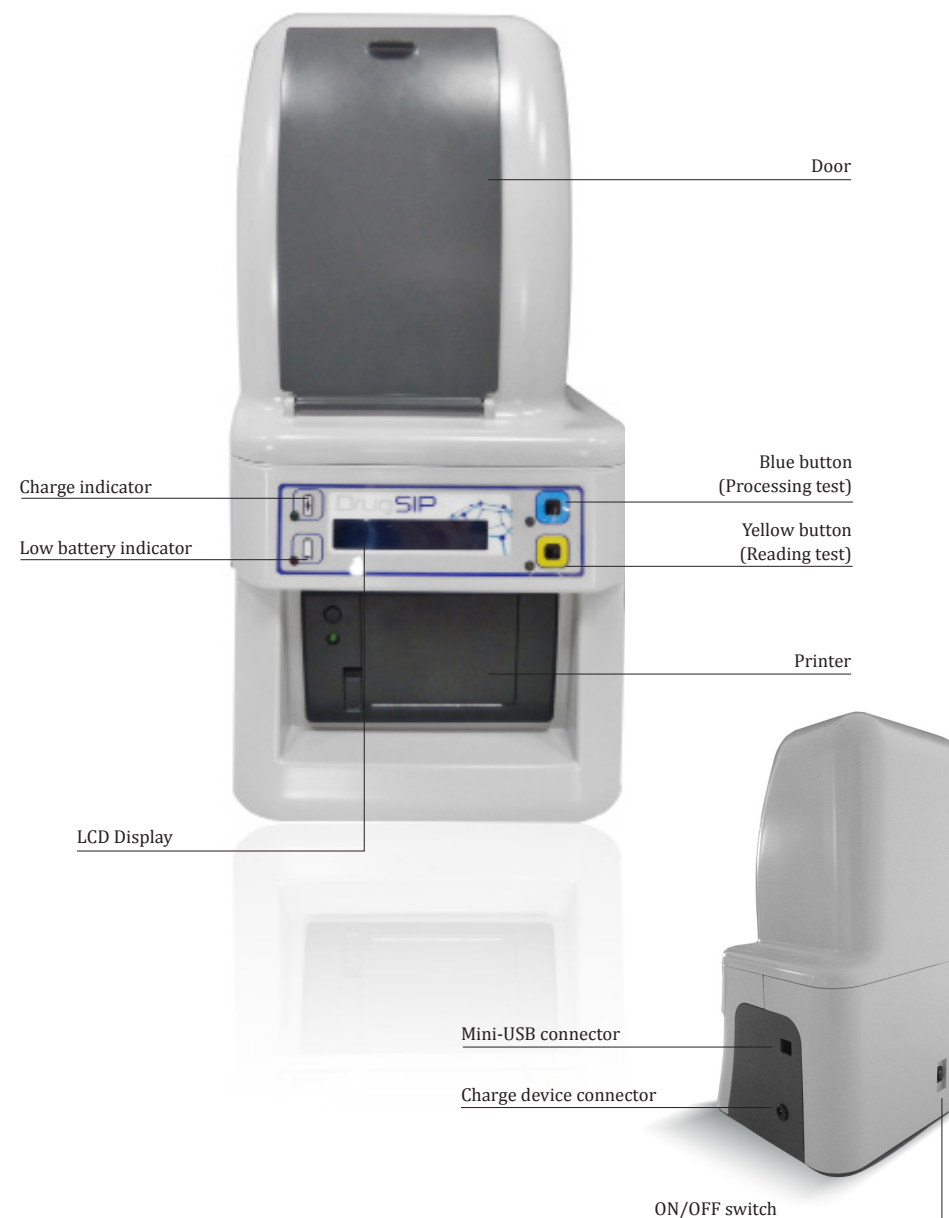

Figure 4 DrugSIP® Multi Analyzer
The DrugSIP® Multi Analyzer (Figure 4) is a kit for detecting drugs of abuse. It comes in a carrying case for protection and easy, convenient, safe transport.
1. First of all, switch on the device using the ON/OFF (Figure 4) switch on the back of the device.